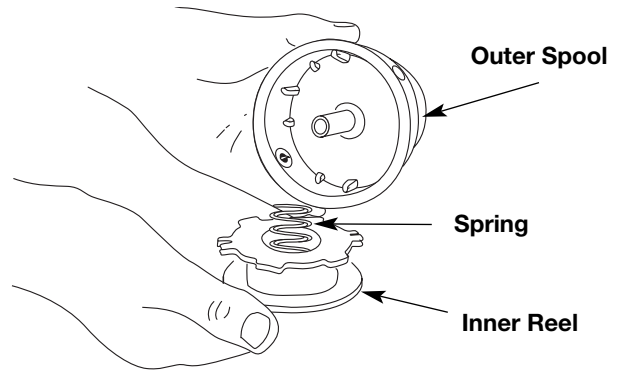

Fig. 12
2. Remove the inner reel from the outer spool (Fig. 12).
3. Remove spring from the inner reel (Fig. 12).
2. Remove the old inner reel from the outer spool (Fig. 12).
3. Remove the spring from the old inner reel (Fig. 12).